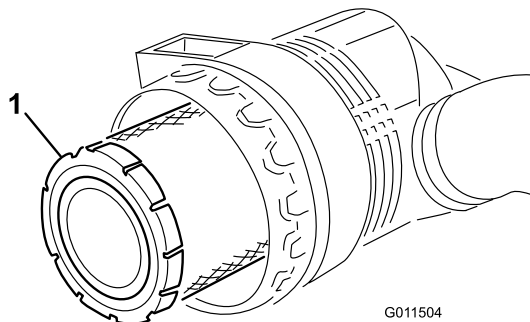

Figure 46
3. Remove and replace the primary filter (Figure 46).